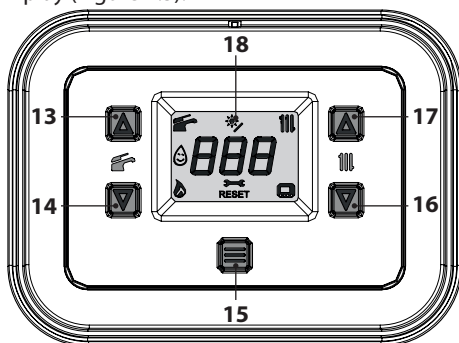

Figure 2.3
- Press button 15 for 1 seconds until both symbols  and  appear on the display (Figure 2.3).